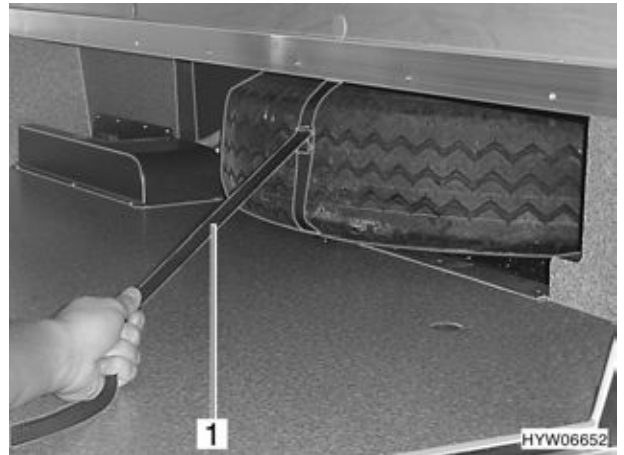

Fig. 196 Spare wheel under the floor
- Pull out spare wheel with the retaining strap (Fig. 196,1).